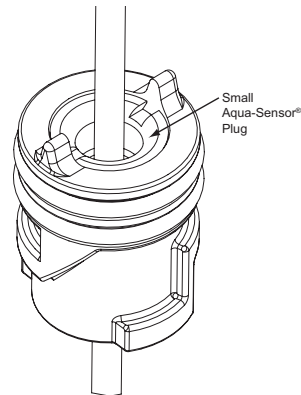

Figure 2. Aqua-Sensor plug.
1. Measure the sensor cable length as shown in Figure 2 and Table 1 (the Aqua-Sensor cord is set at the factory for a 9" tank).
2. Loosen the small Aqua-Sensor Plug; a needle-nose pliers works best. See Figure 2.